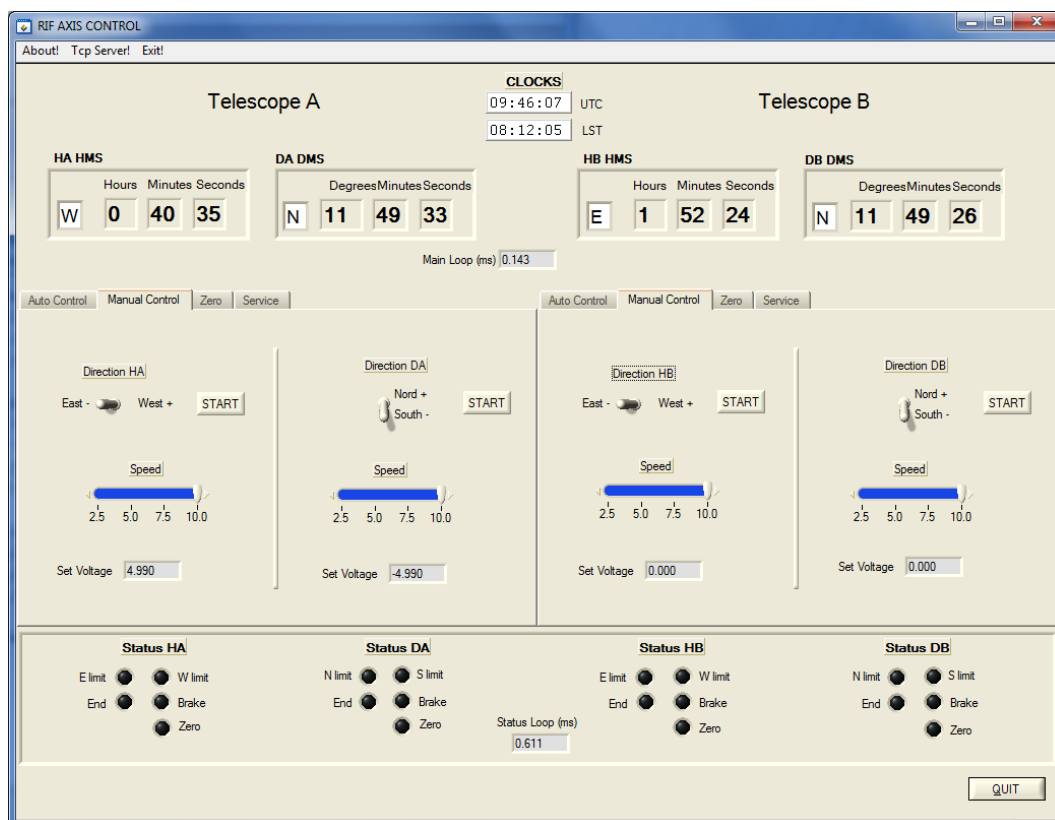

Figure 4: The Axis4 “Manual Control” tab.
- (a) To control the dish manually, switch the “Mode” switch in the “Auto Control” tab from “AUTO” to “MAN” for both the RA and DEC controllers before navigating to the “Manual Control” tab shown in Figure 4.